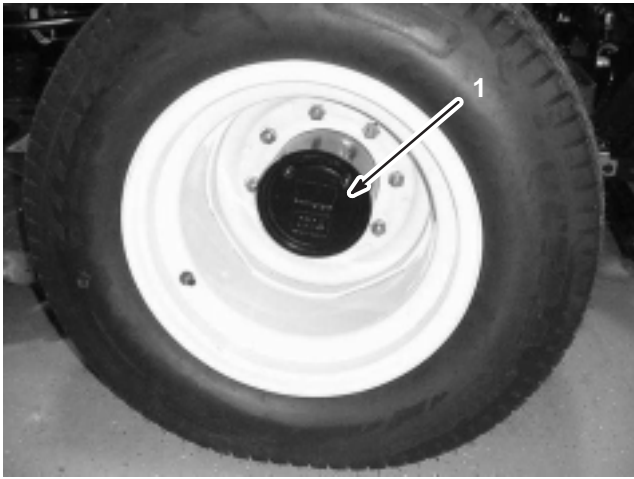

Figure 6
1. With the machine on a level surface, position the wheel so that the check/drain plug (Fig. 6) is at either the 2 or 10 o'clock position.
2. Remove the plug on the planetary (Fig. 6)). Oil should be at the bottom of the check plug hole.